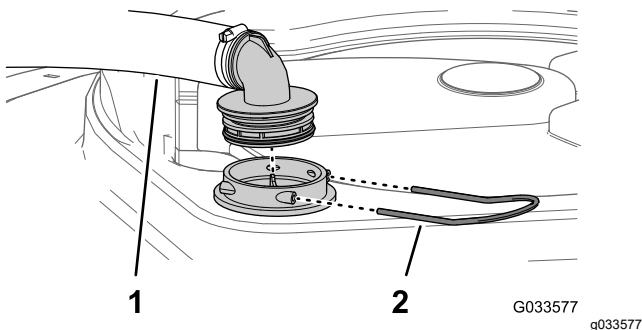

Figure 86
- At the top of the sprayer tank, remove the retainer that secures the hose fitting attached to the large hose from the filter housing (Figure 86).
- Remove the hose and hose fitting from the filter housing (Figure 86).